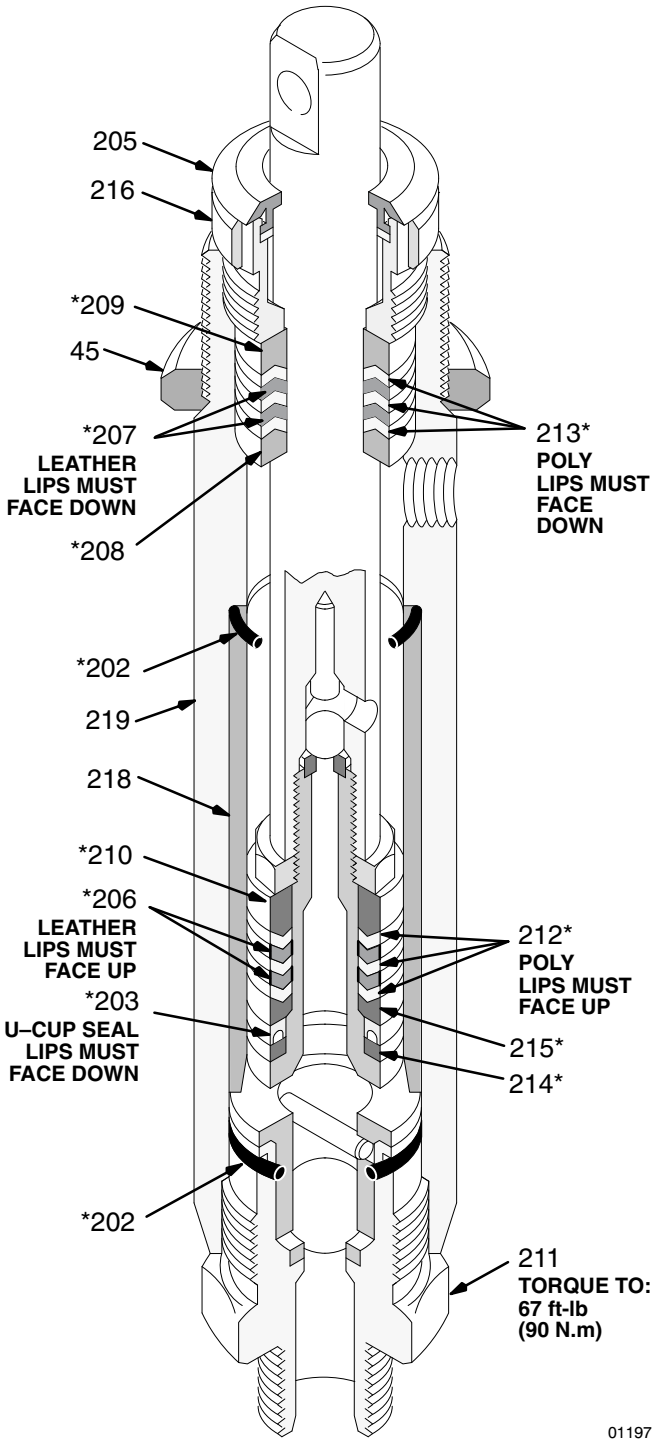
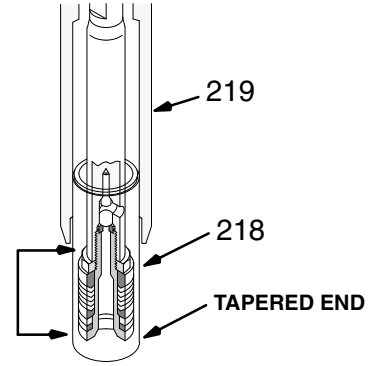

Fig. 29
Fig. 30
8. Stack the male gland (208*), alternate packings (213*,207*), and female gland (9) into the top of the cylinder (219). See Fig. 29.
9. Install the packing nut (216) and plug (205), but leave loose for now. See Fig. 29.
NOTE: The tapered end of the sleeve is the bottom of it. See Fig. 30.
- Place a new o-ring (202*) firmly in the cylinder groove. See Fig. 29
- Slide the sleeve/piston rod assembly **INTO THE BOTTOM OF THE CYLINDER**. This is to prevent packing damage during reassembly. See Fig. 30.
- Screw down the cylinder locknut (45) until it is finger tight at the bottom of the external cylinder threads.
- Place the flats of the intake valve (223) in a vise. Install a new o-ring (202*). Screw the pump cylinder into the valve. Torque to 67 ft-lb (90 N.m). See Fig. 29.